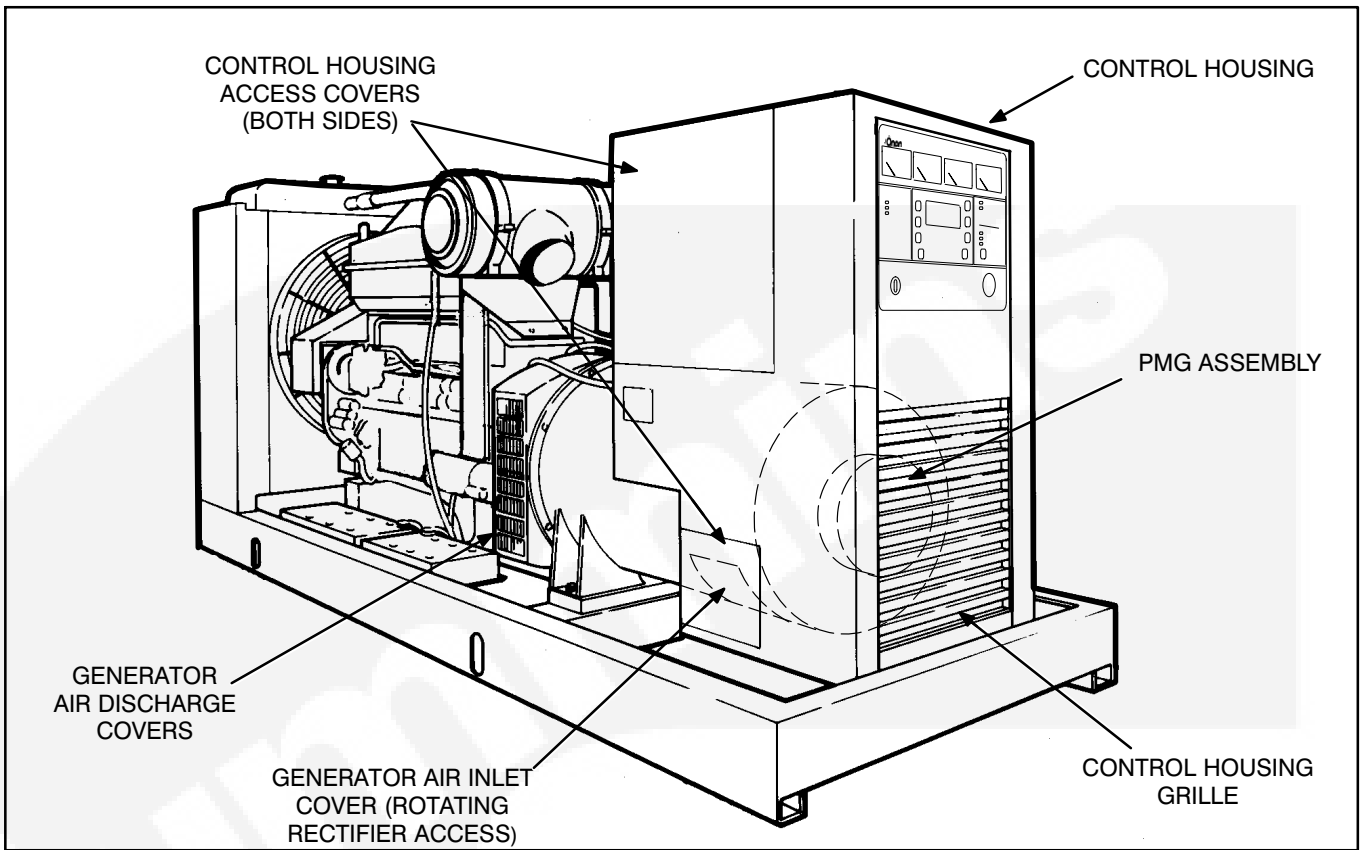
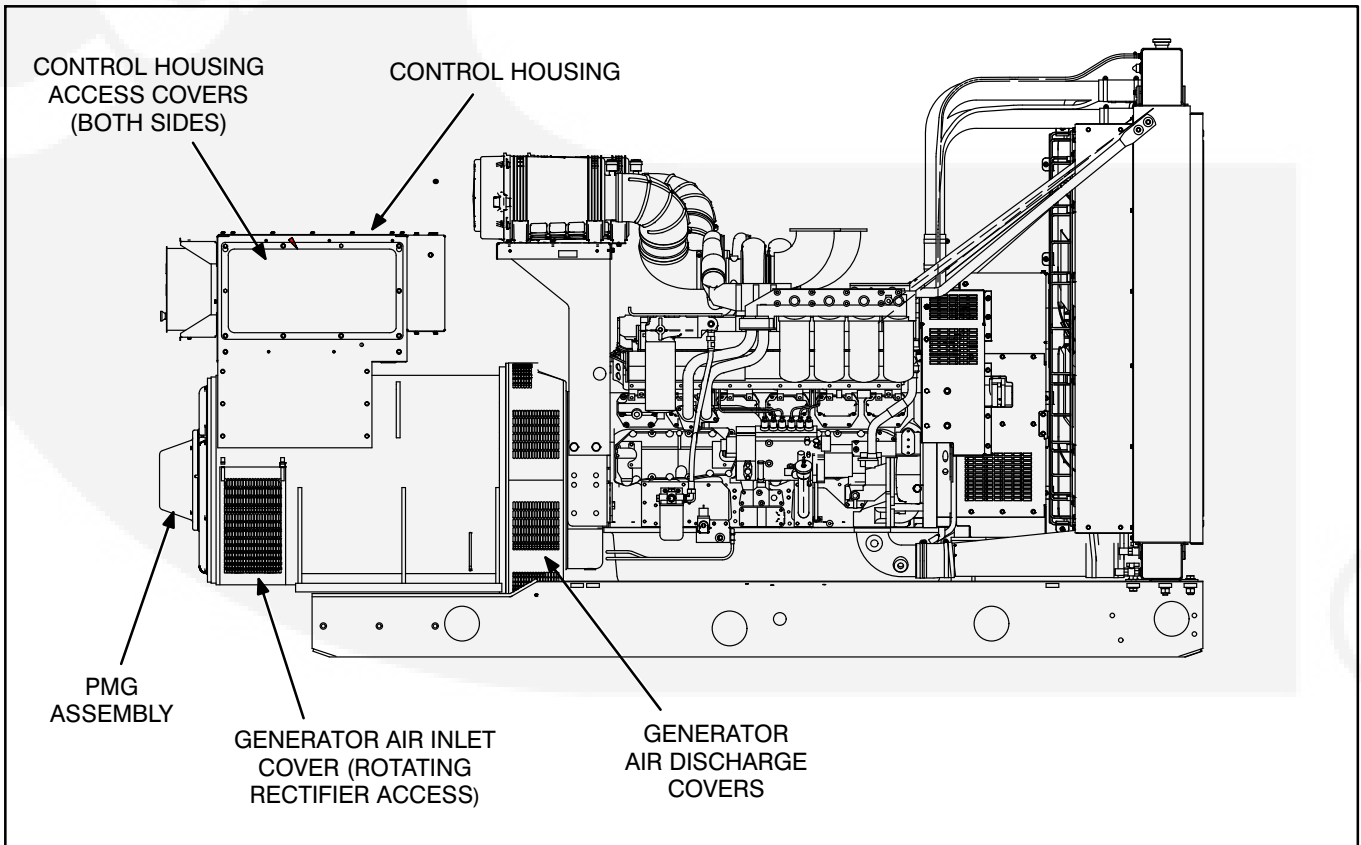

FIGURE 6-7. HC6 GENERATOR AND CONTROL HOUSING ASSEMBLY
FIGURE 6-8. P7 GENERATOR AND CONTROL HOUSING ASSEMBLY
Two types of generators (P7 or HC6) are used with these generator set models. The major difference between these two generators is the lifting eye locations on the generator and the type of control housing. The control housing for the HC6 generator is shown in Figure 6-7 and the control housing for the P7 generator is shown in Figure 6-8. In the following procedures, if the step only applies to a particular control housing or generator, it will be noted at the beginning of the step (e.g., *HC6 control housing*, *P7 generator*, etc.)
2. *HC6 Control Housing:* Remove the control housing grille and access covers (see Figure 6-7).
5. *HC6 Control Housing:* Install the control housing grille and access covers (see Figure 6-7).
2. Remove the air inlet and discharge panels and access covers from control housing and generator (see Figure 6-7 or 6-8).